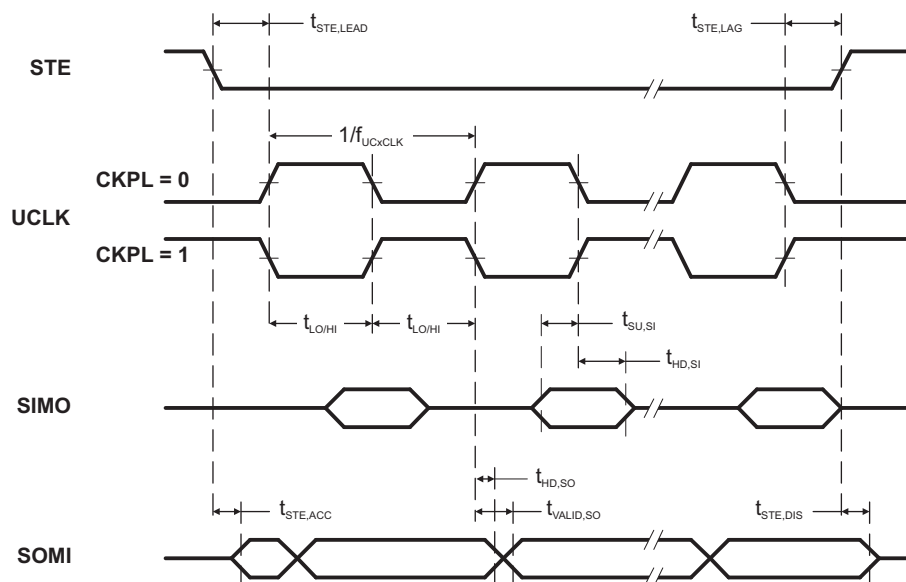
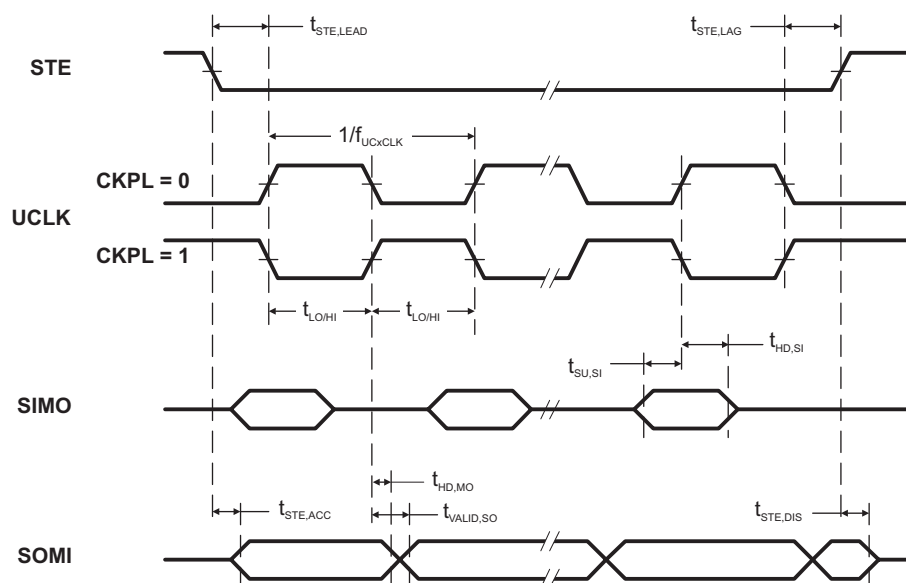

Figure 5-13. SPI Slave Mode, CKPH = 0
Figure 5-14. SPI Slave Mode, CKPH = 1
(see Figure 5-13 and Figure 5-14)
- (1) $f_{UCXCLK} = 1/2t_{LO/HI}$ with $t_{LO/HI} \geq \max(t_{VALID,MO(Master)} + t_{SU,SI(USCI)}, t_{SU,MI(Master)} + t_{VALID,SO(USCI)})$. For the master parameters $t_{SU,MI(Master)}$ and $t_{VALID,MO(Master)}$, see the SPI parameters of the attached slave.
- (2) Specifies the time to drive the next valid data to the SOMI output after the output changing UCLK clock edge. See the timing diagrams in Figure 5-13 and Figure 5-14.
- (3) Specifies how long data on the SOMI output is valid after the output changing UCLK clock edge. See the timing diagrams in Figure 5-13 and Figure 5-14.